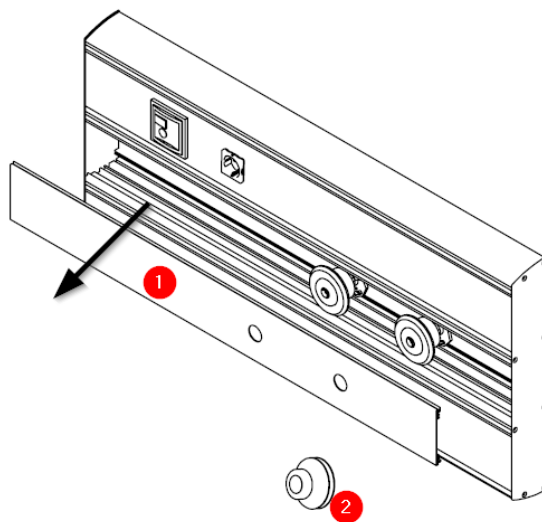

Fig. 1 Removal of front gas cover
Remove the gas circuit enclosure cover (1) using the plastic suction cup (2) (see Fig. 1).